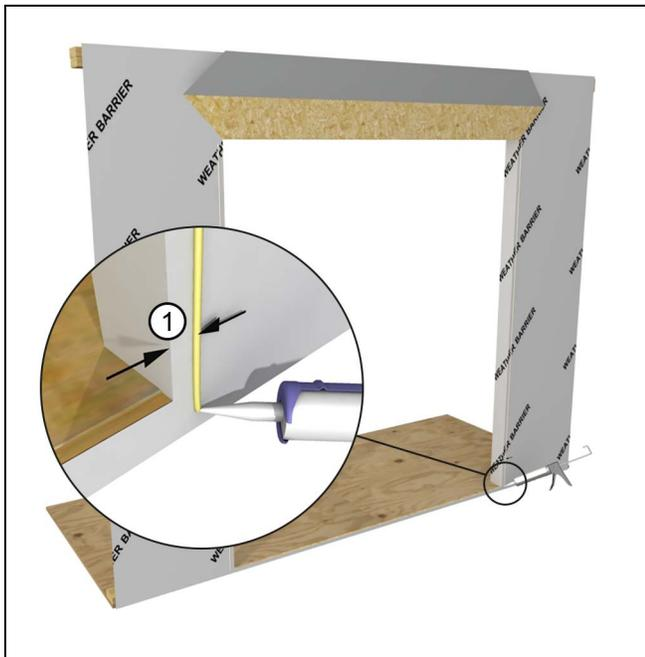

Figure 9
**NOTE:** For sliding doors with interior shades the head jamb and sill must be parallel within 1/8" (3) across the width of the door or interior shades may not function properly.
1. After the rough opening has been prepped (using either the air barrier or building paper methods), apply a continuous bead of sealant 3/4" (19) from the top and sides of the door opening. See Figure 9.